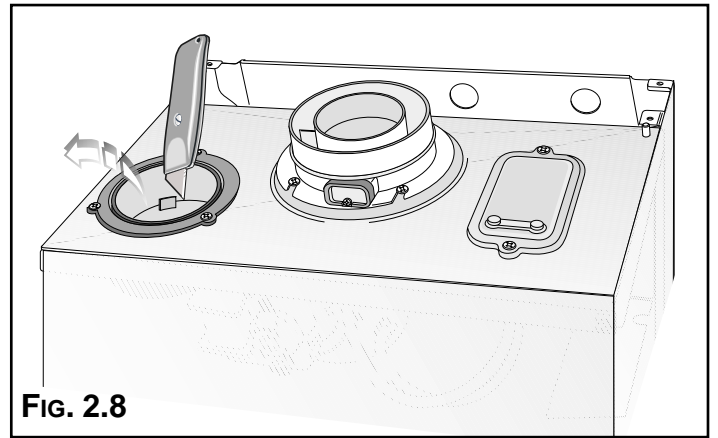

FIG. 2.8
1. Remove the bottom of the air intake by cutting it with a suitable knife (see **FIG. 2.8**);